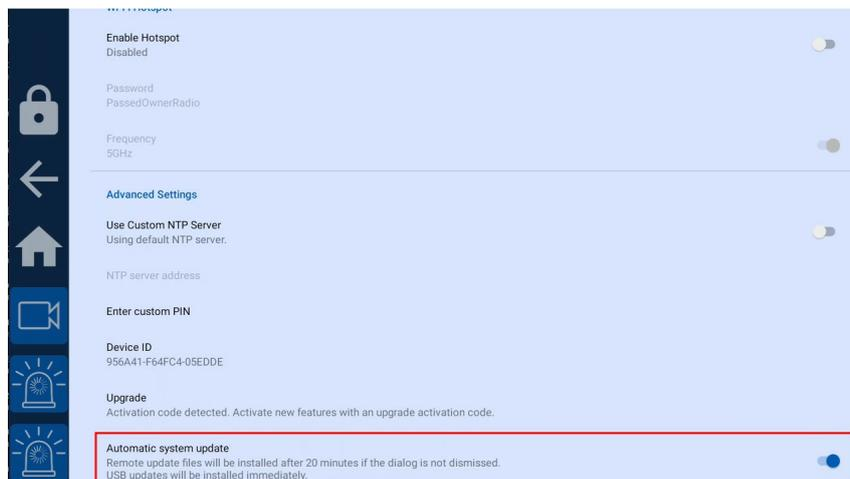
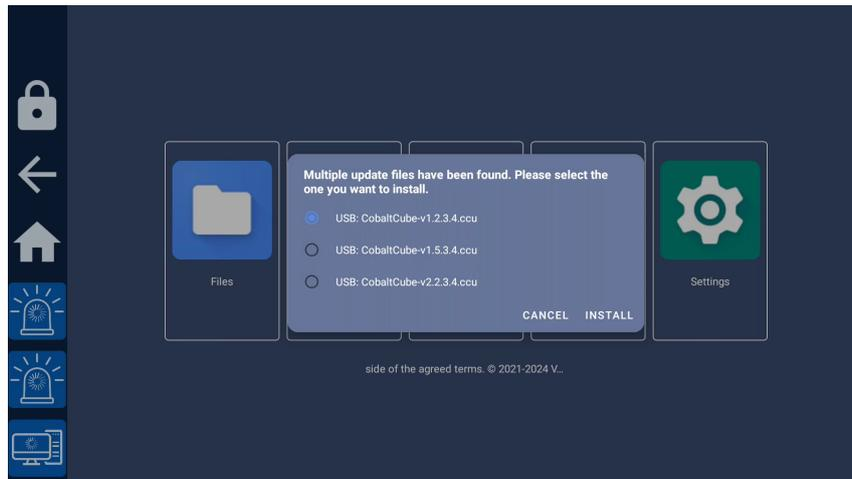
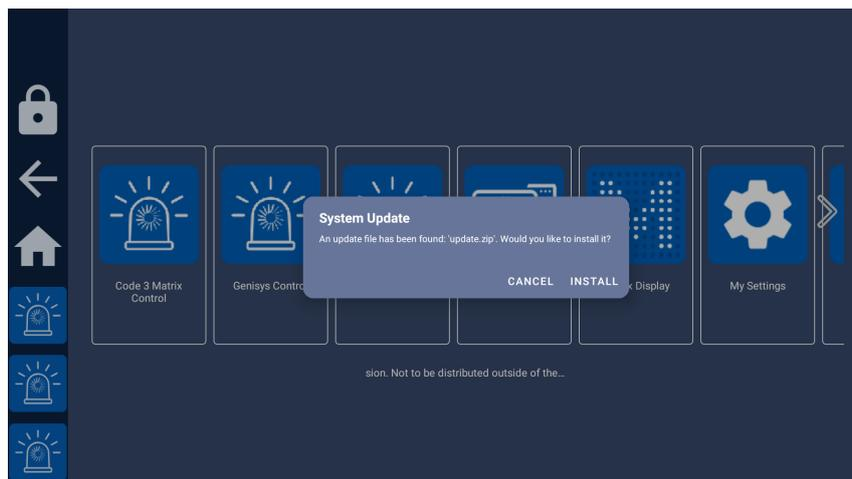
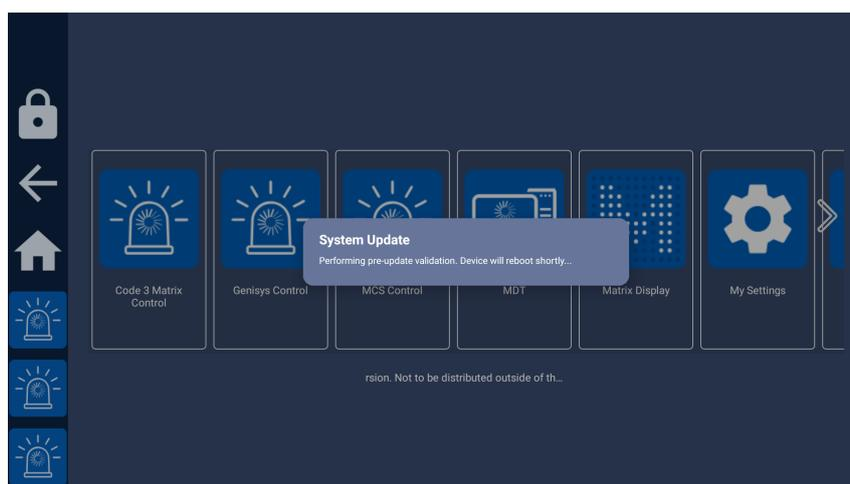

Figure 1: Automatic Update setting
Figure 5: Multiple update dialog
Figure 6: Update dialog
Figure 8: System updating dialog
The Automatic update feature is intended to minimize or eliminate the requirement for user interaction with the update process. This feature is enabled from the Cobalt Cube admin settings menu (see Figure 1).
3. After a few seconds the update will either start automatically or a dialog will pop up, notifying that an update has been found on the USB stick (see Figure 6 and section 5). If more than one update file is found you will be asked to select which you want to install (see Figure 5).
Note: The exact sequence will depend on the Automatic Update setting (see section 5). Once the update file has been transferred, and the Cobalt Cube has been rebooted the File Preparation dialog will appear (see Figure 6) or the countdown dialog will be shown (see Figure 1). Pressing "INSTALL NOW" will move the file for use by the Cobalt Update application. After a brief pause, the Cobalt Update dialog will appear (see Figure 8). The system will then update and reboot, which takes about ten minutes.